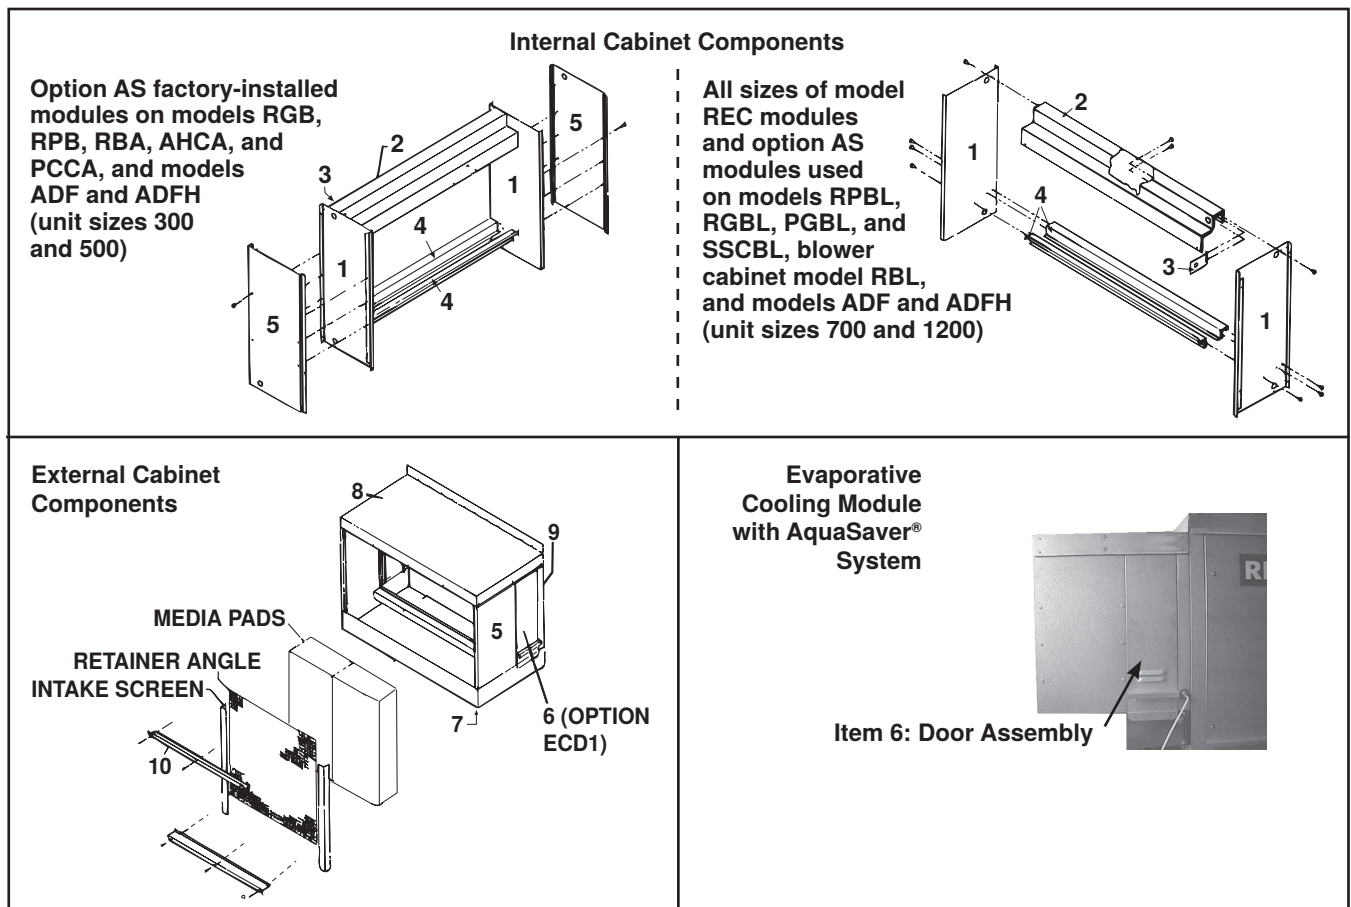

Figure 5. Cabinet Components (Refer to Table 6)
*Quantity is one (1) unless otherwise indicated.
**Shown in Figure 5.